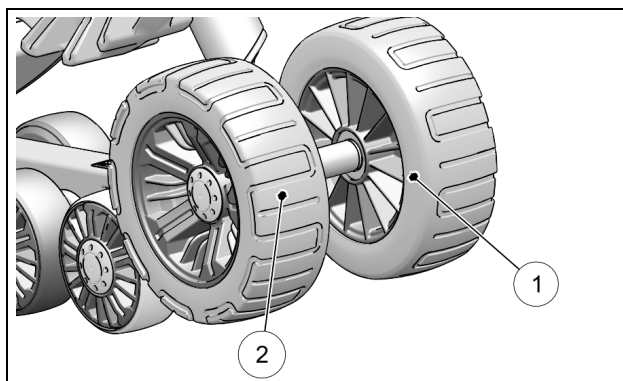

Figure 35
Verify wear on the Urethane Tires especially on the interior guidance strip (1) and between the tire profiles (2). The wheel must be replaced if the inner surface is worn out or the tire is cracked between the tire profiles. A wheel that is excessively worn will not offer enough support for track guidance. Track guides may also wear prematurely. Figure 35.